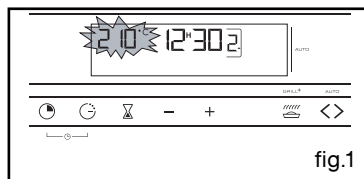

fig.1
The display flashes 12:00. (fig.1)
The function selector must be in position 0 (fig. 1).
It should not be flashing (fig 1).
- Select the cooking mode desired and adjust the temperature (fig.1).
The end cooking time display to indicate that setting is now possible (fig.1).
– The analog programmer should display only the time (fig.1).